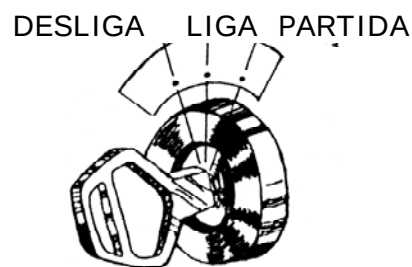

FIGURA 2-2
2.1.2 – PARA LIGAR O MOTOR (FIGURA 2-2)